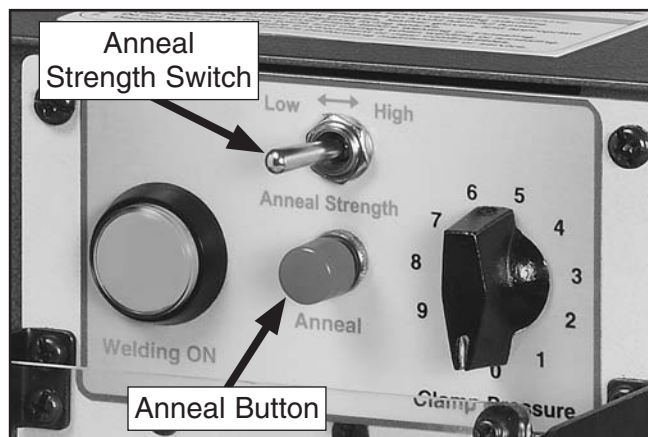

Figure 18. Annealing controls.
4. **For Carbon Steel Blades:** Rapidly press and release—DO NOT hold—the anneal button (see **Figure 18**) until the weld zone turns a dull red color. Continue pressing the anneal button with decreasing frequency until the weld no longer glows.